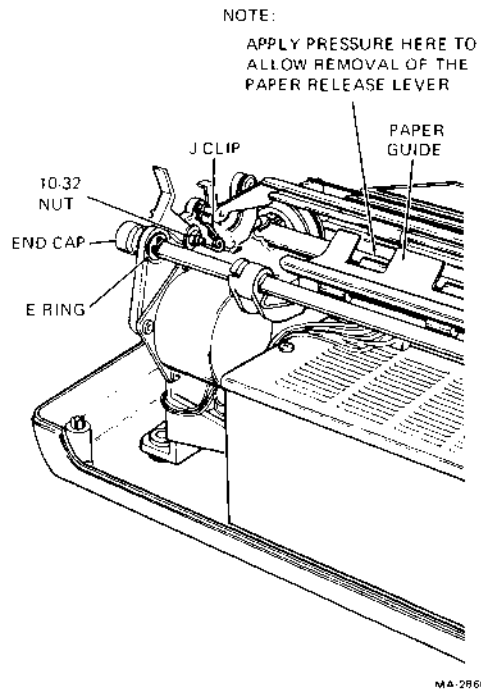

Figure 7-7 Friction Assembly Removal
2. Lift bail bar to gain access to the paper guide. Lift paper guide straight out (Figure 7-7).
3. Remove the J-clip that secures the paper release lever to the bail bar assembly (Figure 7-7).
4. Remove the (10-32) nut that secures the paper release lever to right side plate (Figure 7-7).
6. With a blade screwdriver, remove the E-ring that secures the friction assembly end cap to the right side plate (Figure 7-7).
7. Remove the end cap from the friction assembly (right side plate side) (Figure 7-7).